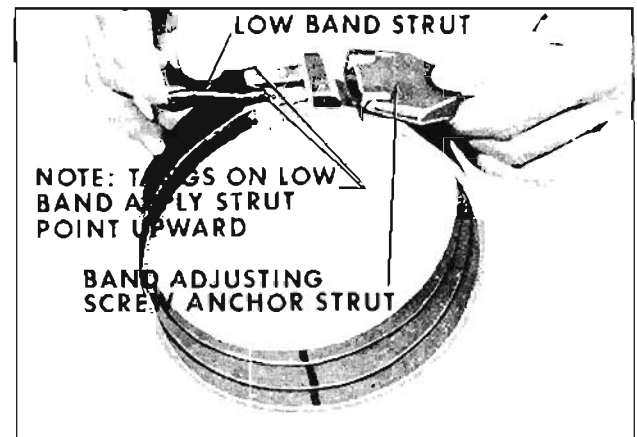

Fig. 6-435 Positioning Band Apply Strut
3. Fig. 6-435 illustrates the proper positioning of the low band apply strut and band adjusting screw anchor strut.